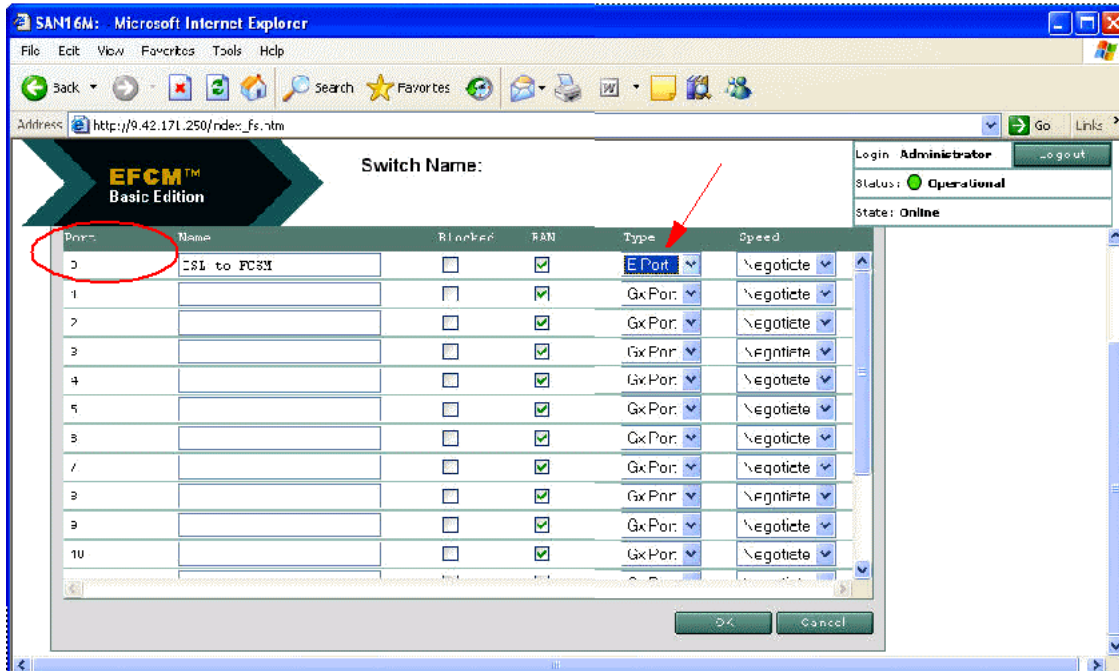

Figure 6-11 Port configuration dialog window
5. In the port configuration dialog window, you may optionally assign a name to the port and define the connection type. In this example, we assigned port 0 to an E_Port type. By assigning the port type to be specifically an E_Port, no N_Ports are allowed to log in to the switch (see Figure 6-11).